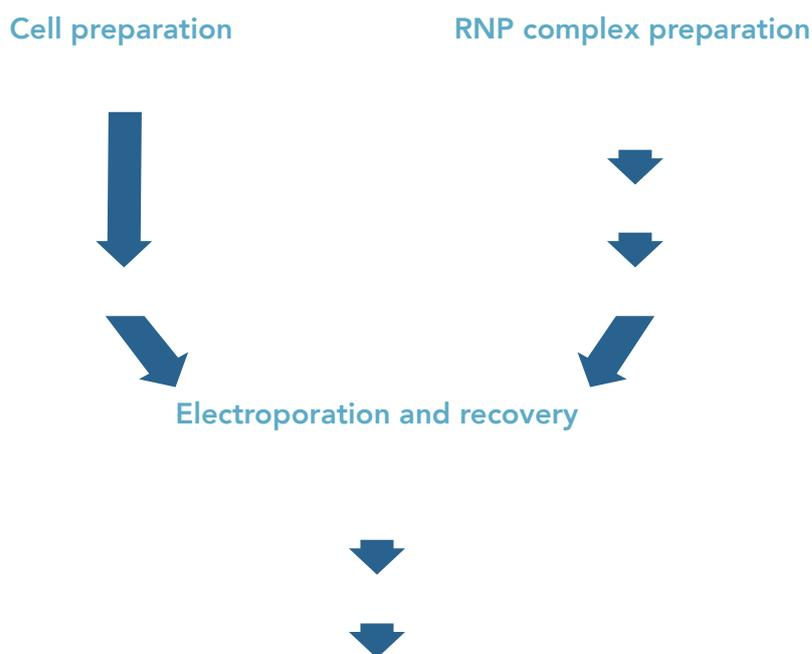

Figure 2. Overview of procedure.
4. We suggest limiting the duration of **steps D** and **E** in this protocol (see Figure 2). In experiments that include many samples, we recommend that one lab member prepares RNP complexes (**step D**) while another lab member simultaneously prepares cells for electroporation (**step E**):